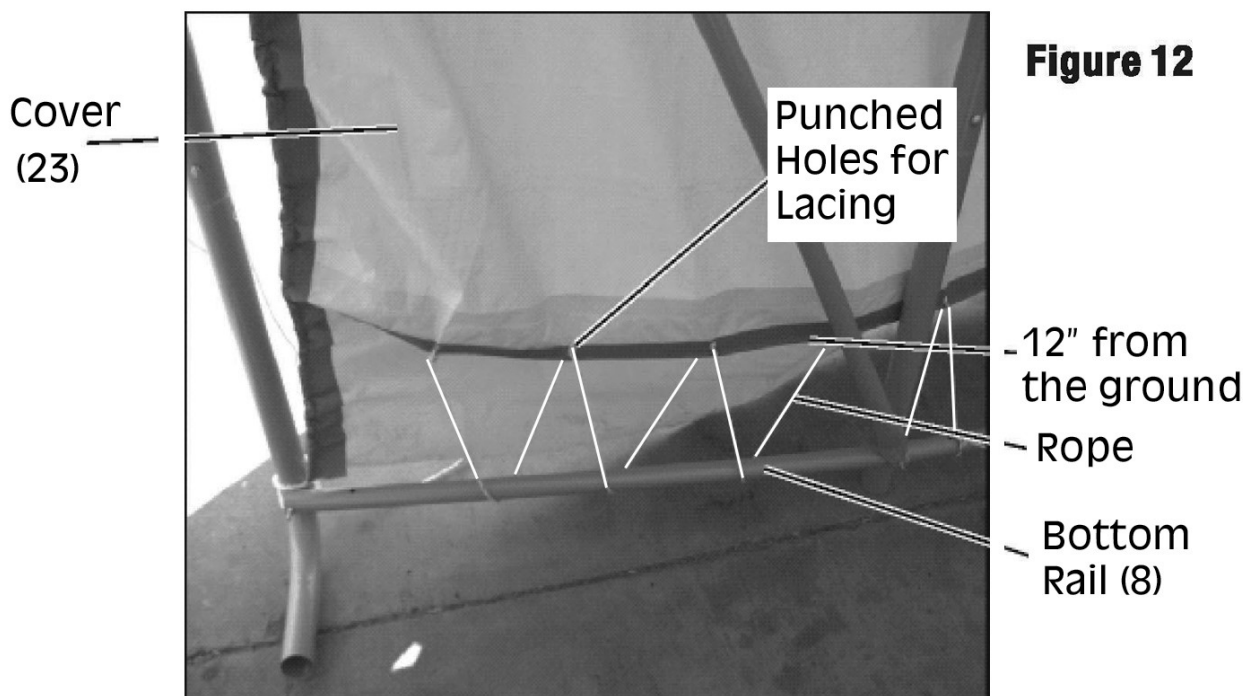

Figure 12
5. The area where the rope comes out of the cover (23) should be about 12" from the ground. See Figure 12.